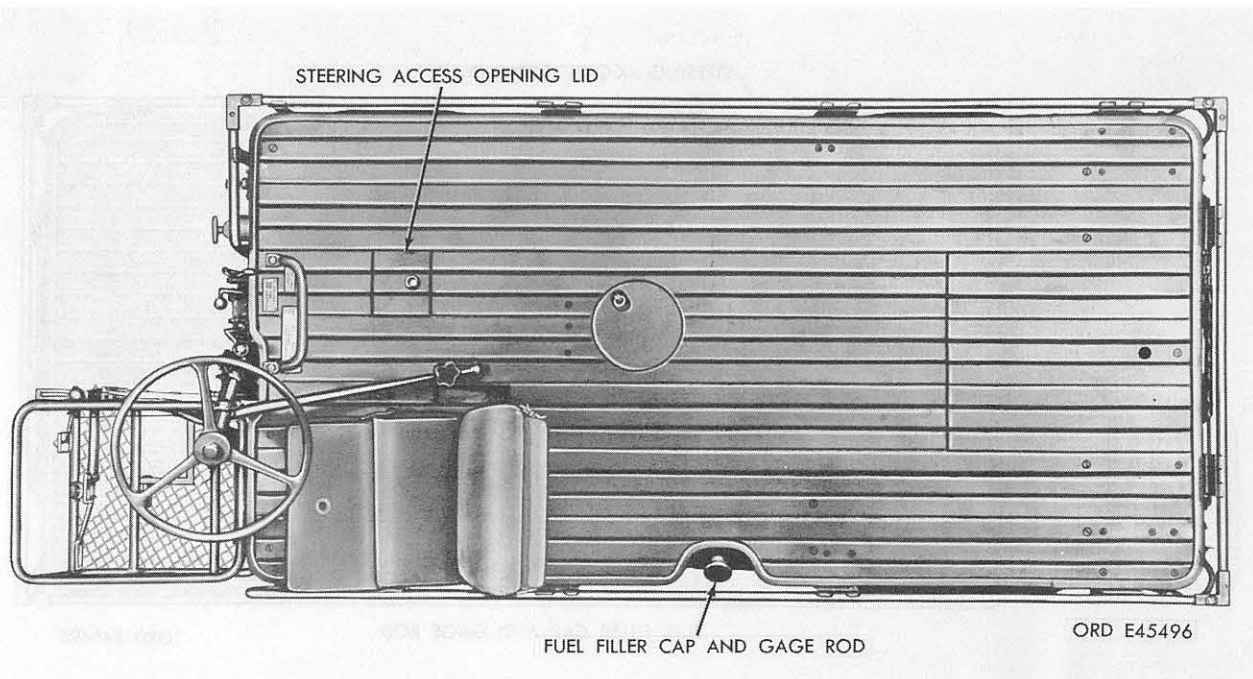

Figure 6. 1/2-ton, 4 x 4 platform utility truck M274A1 - top view.
b. Fuel Tank. The fuel tank (figs. 7 and 8) is located on the left side of vehicle and has a fuel capacity of 8 gallons. The fuel filler cap and gage rod (fig. 6) used on the M274A1 vehicle has a vent valve within the cap. This valve is to be closed only when vehicle is turned upside down for lubrication. At the bottom of fuel tank, a drain plug (figs. 7 and 8) is provided for draining the tank.